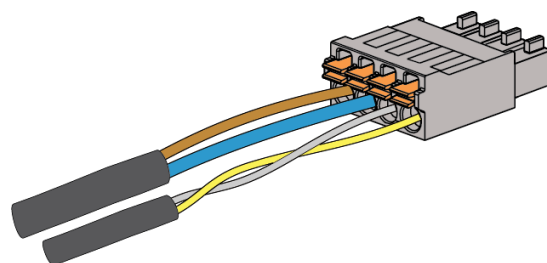

Figure 13: Communication Connector Wiring
6. On each end of the 4-conductor communication cable, strip and insert the wires into the provided 4-pin connectors (Figure 13). On the Powerwall side, use the black connector provided in the accessory bag. On the Backup Gateway side, use the connector that came plugged into the corresponding connector socket in the Backup Gateway.